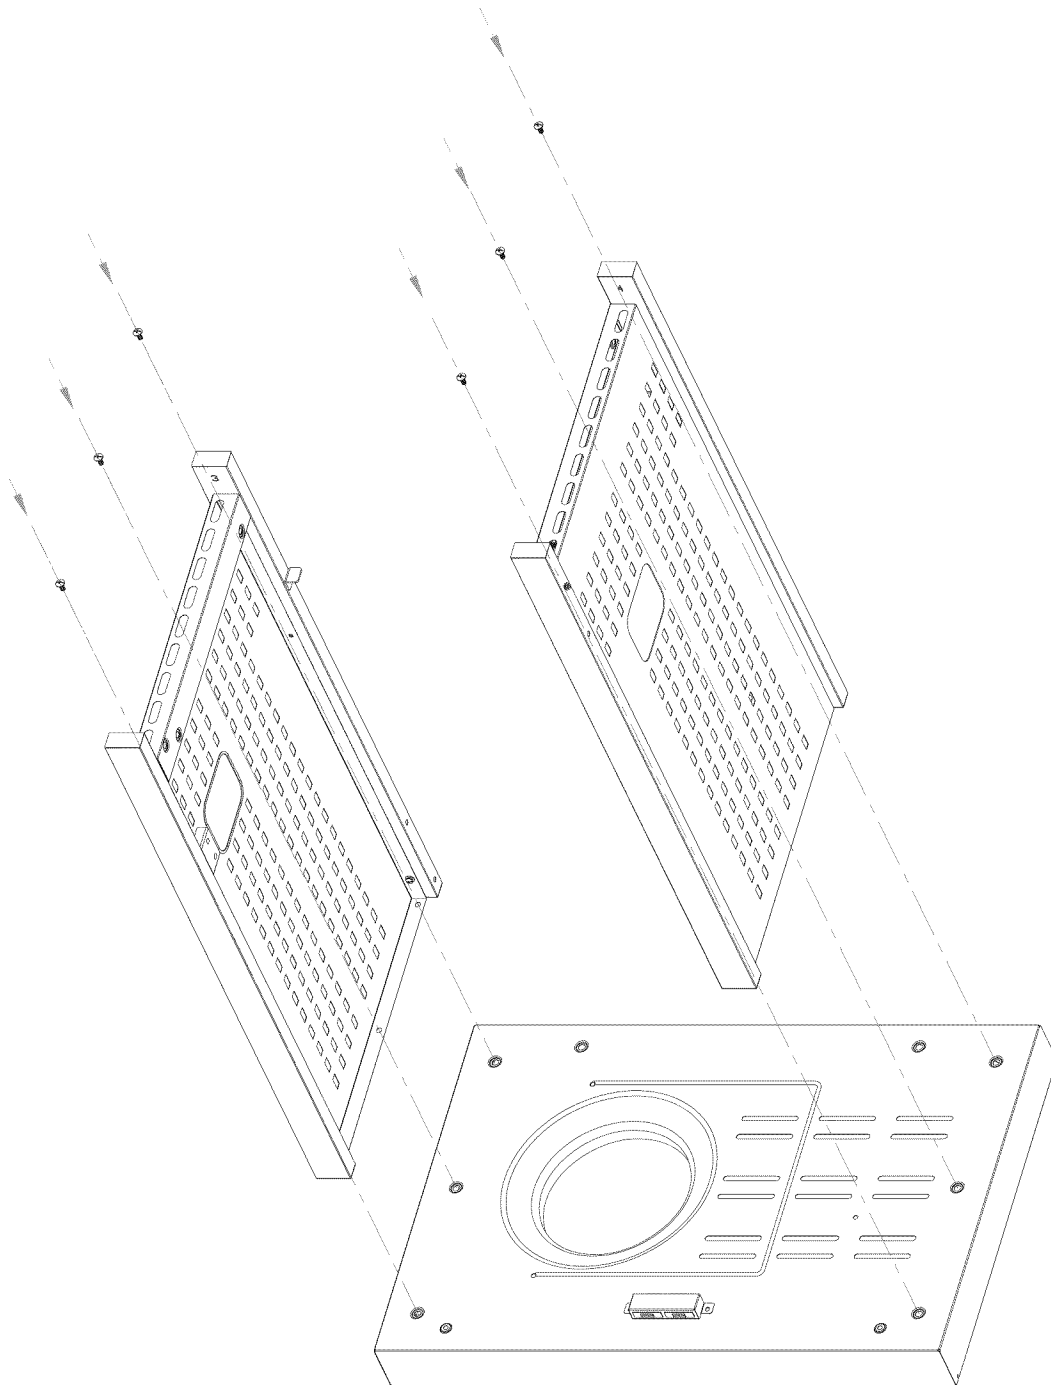

Fig. 4
1. Align side panel leg holes with holes on each side of the bottom shelf as shown in **Fig. 4**.
2. Attach left and right panels to the sides of the bottom shelf with six (6) M6 x 13 screws as shown in **Fig. 4**.